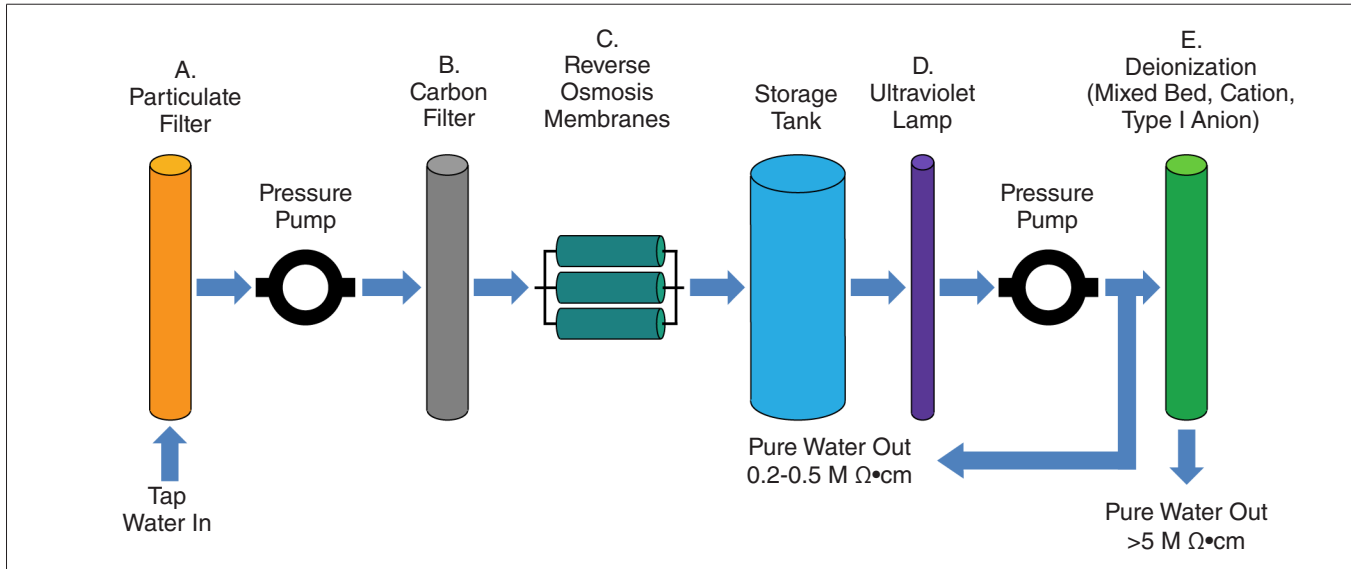

Figure 6.4k: Reverse Osmosis / Deionized water system.
- The reverse osmosis / deionized (RO/DI) water system shown in Figure 6.4k produces water pure enough for spray systems.
- Figure 6.4k below shows an effective Reverse Osmosis / Deionized Water System with Anion Type I Resin for spray water silica removal.